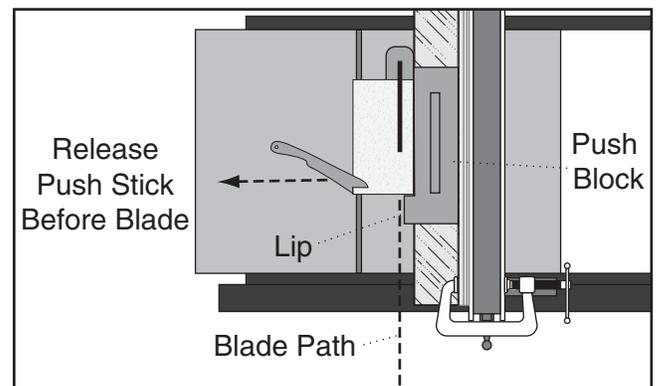

Figure 96. Rippling with push block.
6. Guide the workpiece the rest of the way through the cut with the push block, as shown in **Figure 96**.